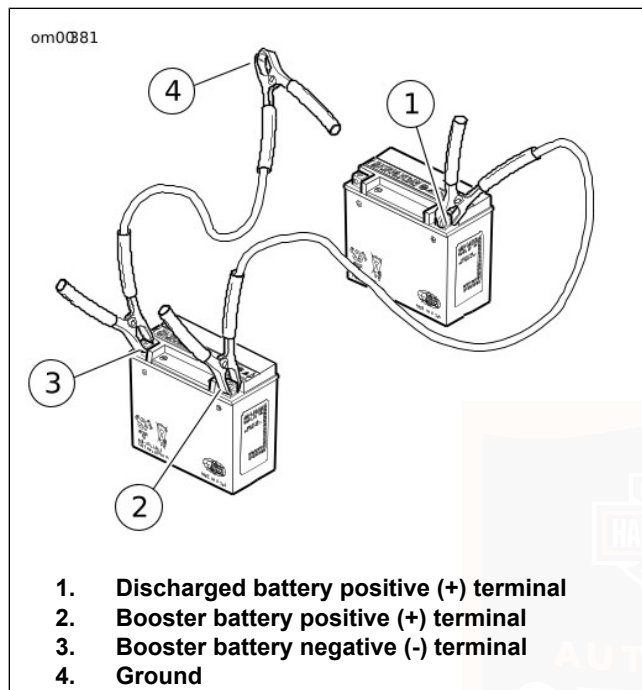

Figure 74. Jump Start Cable Connections
1. See Figure 74. Connect one end of a jumper cable to the DISCHARGED battery positive (+) terminal (1).
2. Connect the other end of the same cable to the BOOSTER battery positive (+) terminal (2).